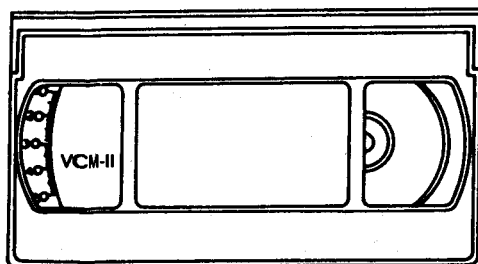

Fig.2
1. Remove the bottom cover. (See Fig.2)
3-3. Back Tension Adjustment (Fig. 2)